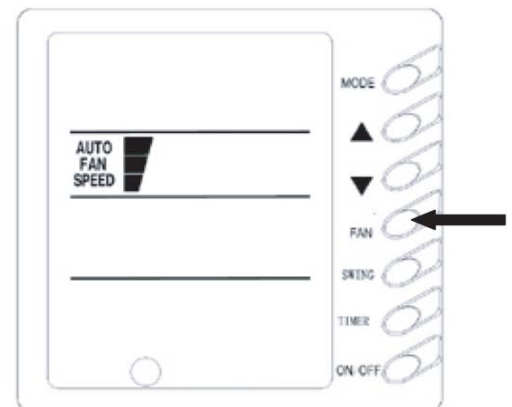

Fig 3
2) Fan control(Fig. 3) (The relevant contents are shown in the figure.)